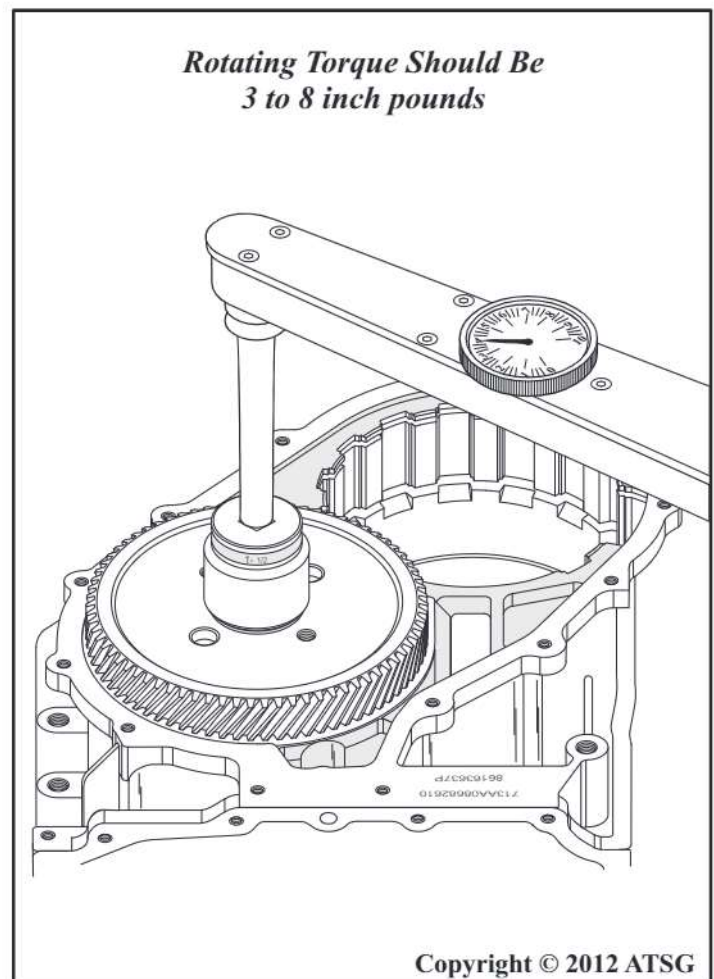

Figure 116
53. Check the rotating torque of the transfer drive gear using a 1-1/2" socket and inch pound, dial type torque wrench, as shown in Figure 116.